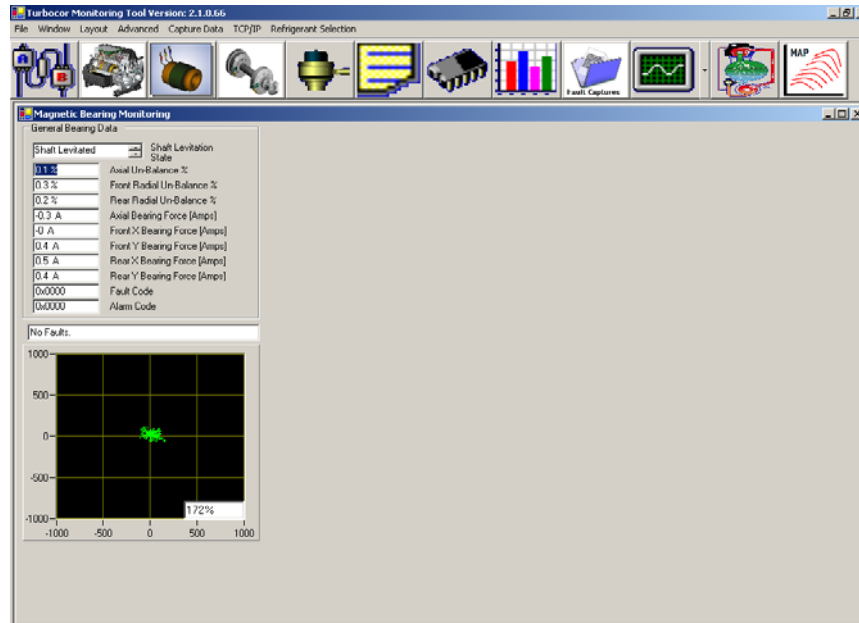

Figure 4-12 Monitor Program - Bearing Monitoring Window
6. Observe the shaft orbit from the “Magnetic Bearing Monitoring” graph. See Figure 4-12. If the shaft (represented by a green dots) exceeds 500 units in any direction (left, right, up, down), then check the external refrigeration circuit. Otherwise, proceed with the next step.